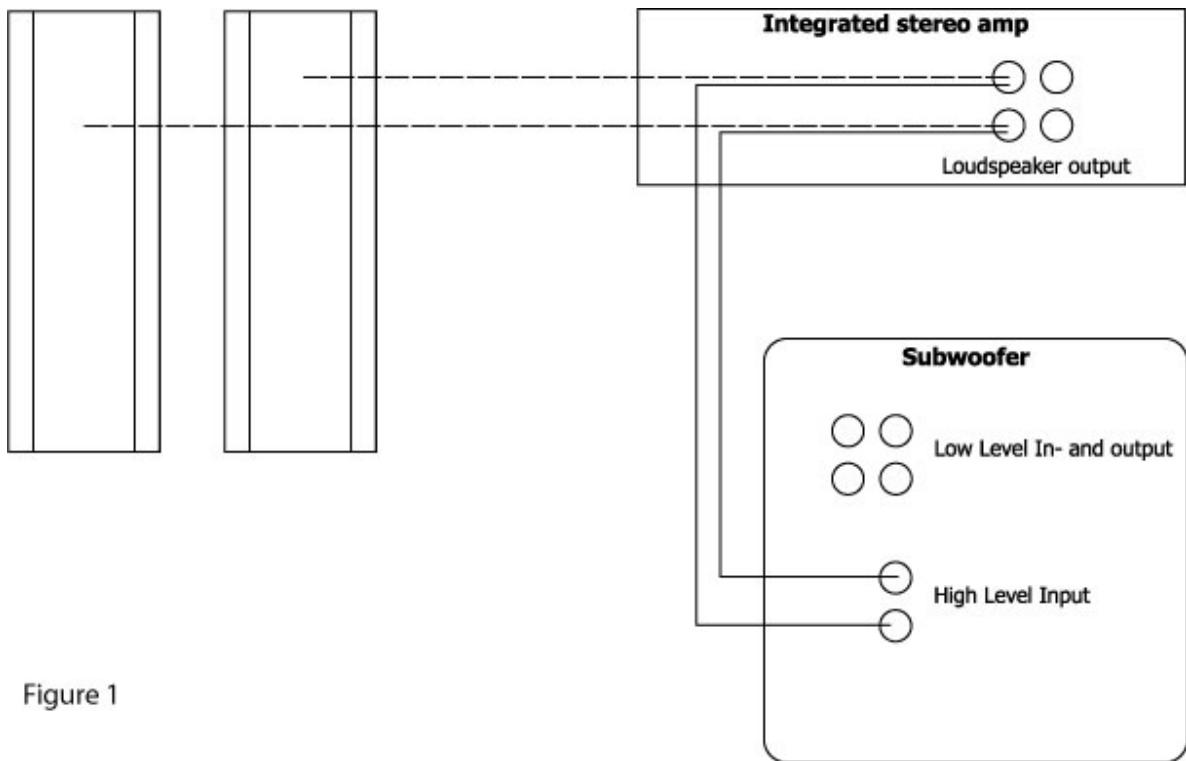

Figure 1
**(Figure 1) If you use an integrated stereo amplifier or stereo receiver WITHOUT a possibility to separate the pre amp stage and the power stage:**